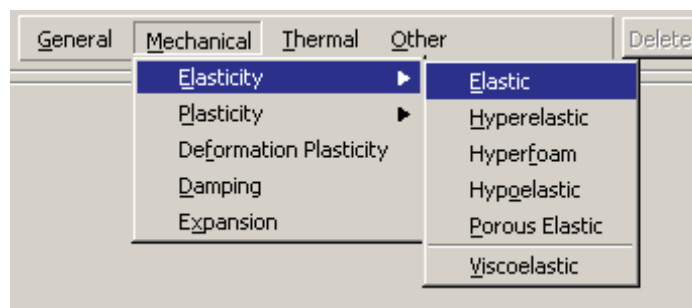

Figure 4–5 Submenus available under the **Mechanical**→**Elasticity** menu.
3. Use the menu bar under the browser area of the material editor to reveal menus containing all the available material options. Some of the menu items contain submenus; for example, Figure 4–5 shows the options available under the **Mechanical**→**Elasticity** menu item. When you select a material option, the appropriate data entry form appears below the menu.